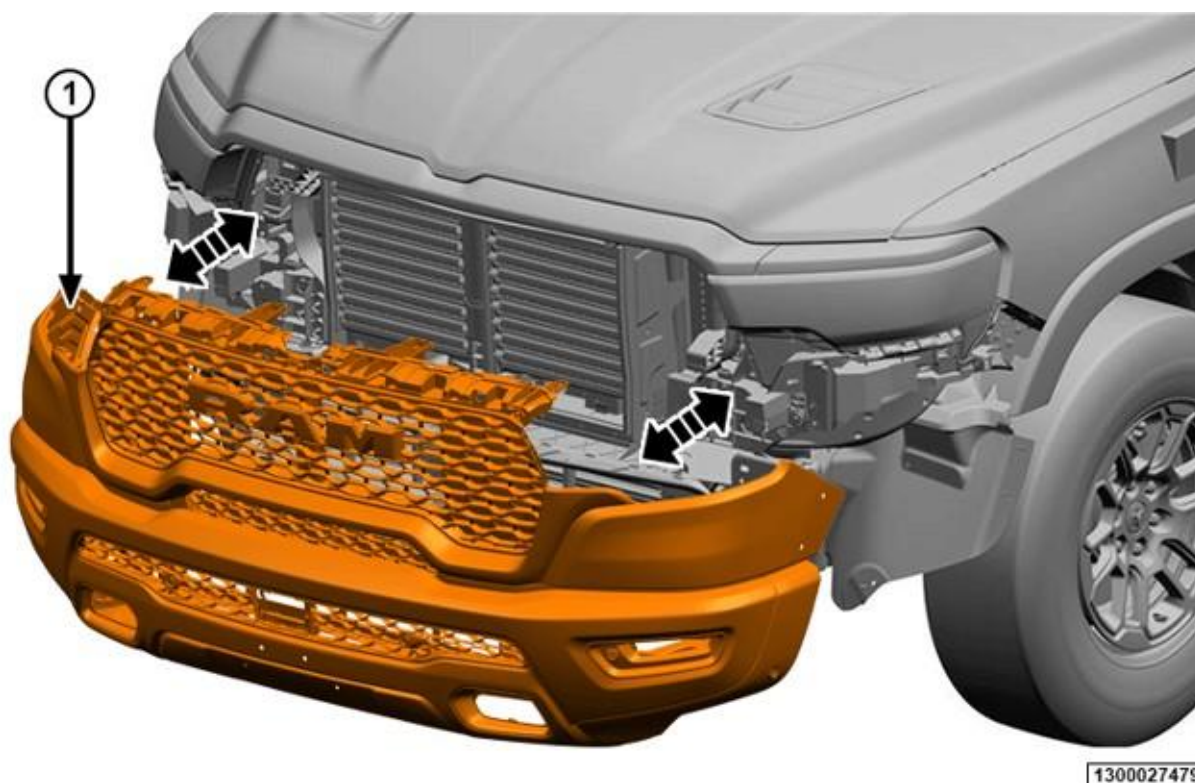

Figure B14 – Grille and Fascia Assembly
21. With an assistant, remove the fascia and grille assembly from the vehicle (Figure B14).